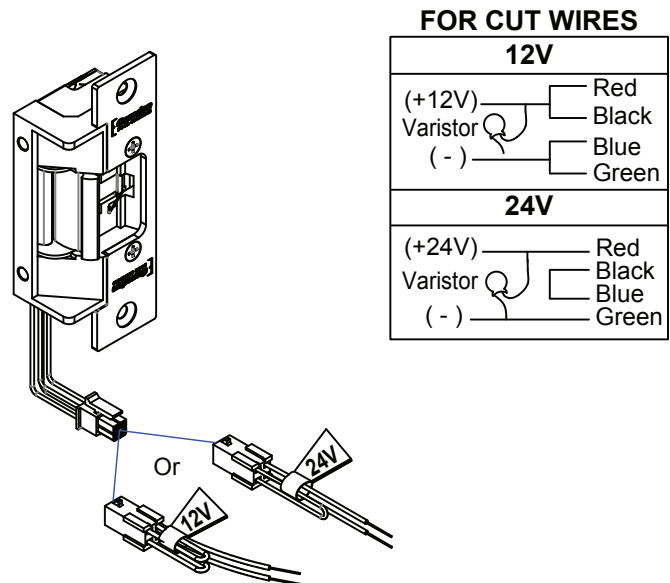

Figure 5.1 Wiring
2. Connect the supplied Varistor between the input wires. A Varistor is provided to protect the strike from voltage spikes. The Varistor connection varies based on the input voltage. Please see the table below for reference. (See Figure 5.1 Wiring)